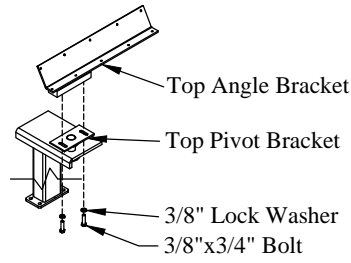

Figure 7: Top angle bracket.
5. **Attach** the top pivot bracket to the top angle bracket with the supplied 3/8" x 3/4" bolts and lock washers (Figure 7). Apply blue LockTite® Thread Locker or equal to the bolts before tightening.